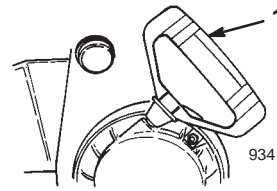

Figure 17
- **Recoil Starter** (Fig. 17)—The recoil starter is on the back side of the engine. Pull the recoil starter to start the engine.
- Grasp the recoil starter handle (Fig. 17) and pull it out slowly until positive engagement results; then pull the handle vigorously to start the engine.